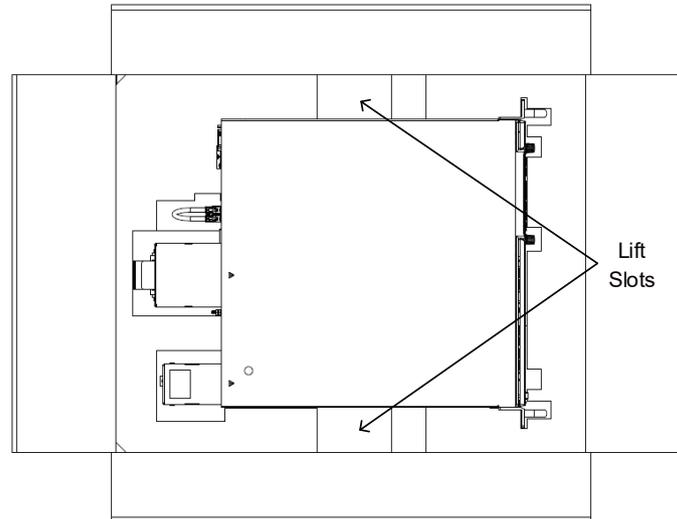

Figure 4-38: GSP Unpack – Power Supply Lift Out of the Box
5. Insert your hands into the side recesses (Lift Slots) and lift the power supply parallel to ground surface as shown in Figure 4-38. Do not tilt the power supply against foam panels to avoid damage. Keep it parallel to ground until it is totally free out of foam panels.